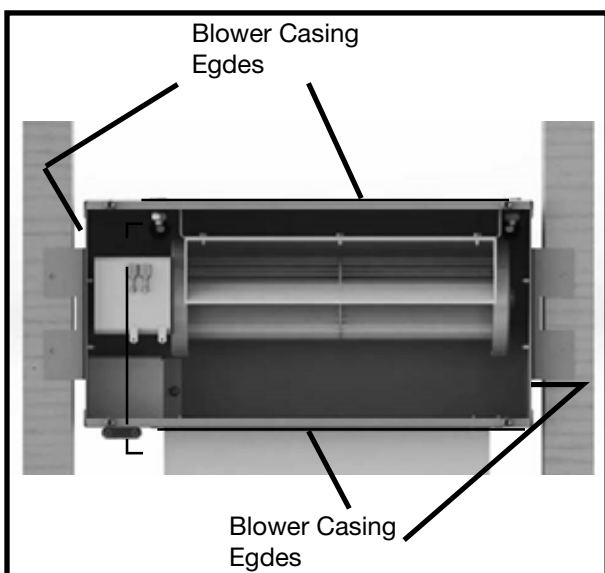

Figure 26: Blower details.
9. Drywall and facing material must not cover the opening in the blower assembly. Remove the Face Plate. Cut the drywall so the edges butt up against the outside of the blower casing edges (Figure 26), top, bottom and sides.